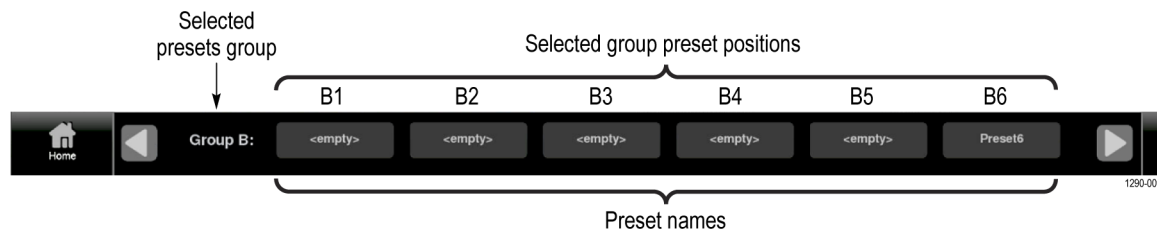

Figure 24: Preset selection controls (Group B shown)
- e. When you select OK, the preset name changes from *<empty>* to **Preset<number>**, where the number is the preset position within the preset group. (See Figure 24.)